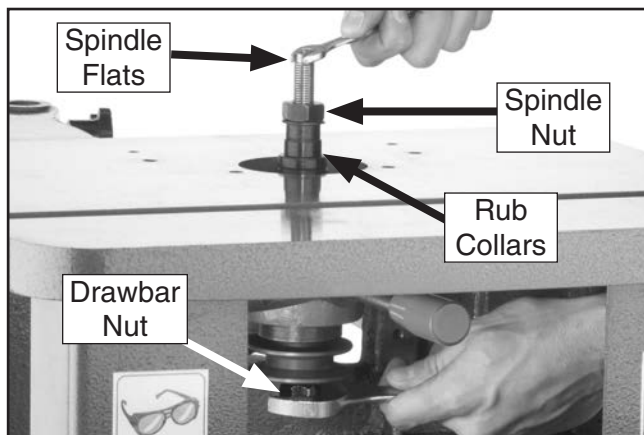

Figure 14. Checking spindle to make sure it is tight (pulley guard removed for clarity).
2. Place wrench on drawbar nut underneath table (**Figure 14**) and tighten spindle.